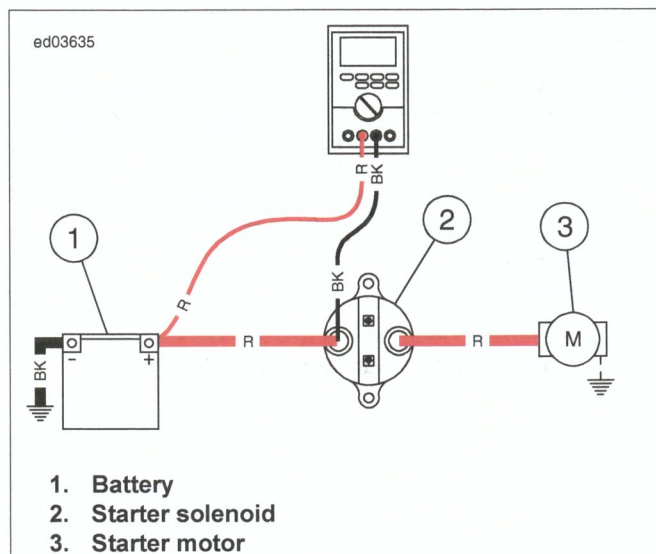

Figure 1-10. To Starter Solenoid Battery Terminal
3. See Figure 1-10. Move the black meter lead to the battery side post on the starter solenoid. Crank the starter.